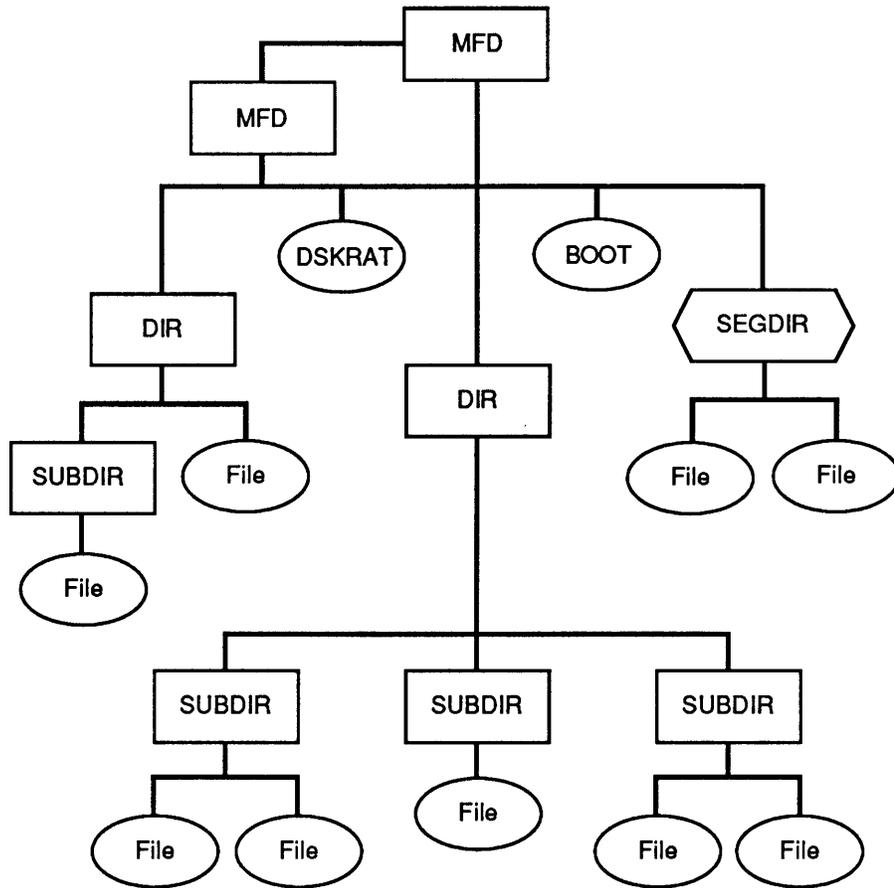

FIGURE 1-1. Prime File System Tree Structure
**Directories** are specialized files containing entries that point to files or to other directories. PRIMOS uses a hierarchical file structure, also known as a **tree structure**, that allows directories to be nested as the user wishes. See Figure 1-1.